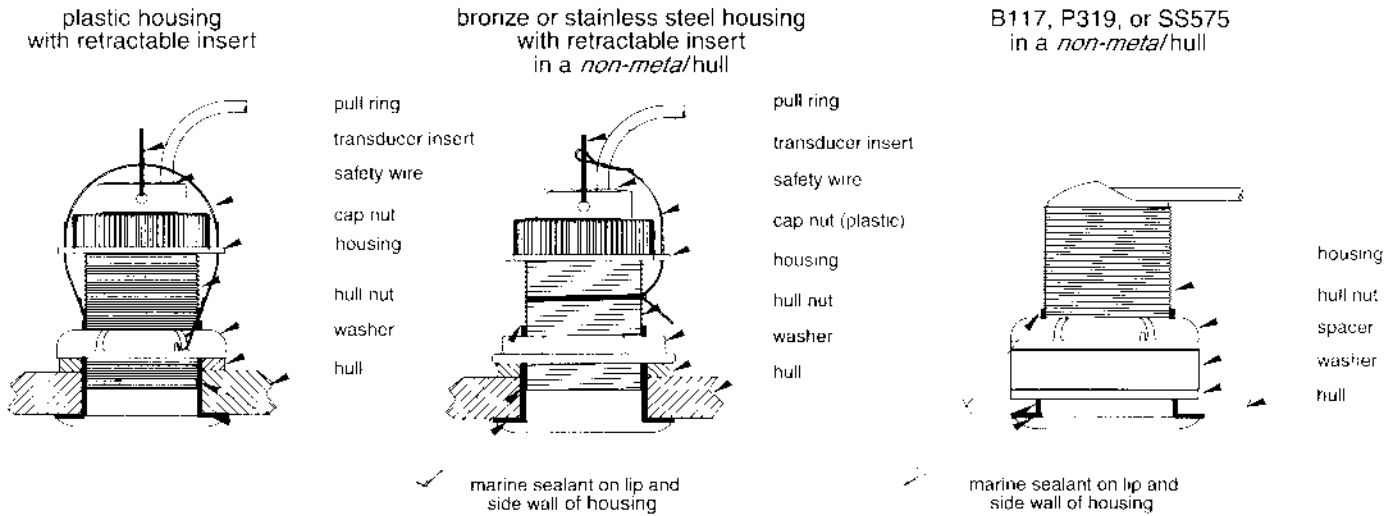

Figure 2. Bedding and installing (low profile housings shown)
Apply a 2mm (1/16") thick layer of marine sealant around the lip of the housing that contacts the hull and up the sidewall of the housing. The sealant *must* extend 6mm (1/4") higher than the combined thickness of the hull, washer, any spacer, and the hull nut (see Figure 2). This will ensure there is sealant in the threads to seal the hull and to hold the hull nut securely in place.
2. From inside the hull, slide the washer onto the housing (see Figure 2).
2. Remove the paddlewheel insert from the housing by removing the safety wire and unscrewing the cap nut (see Figure 2).